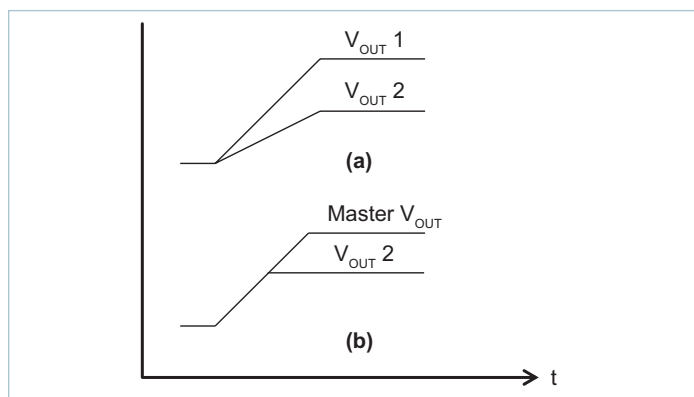

Figure 61 — PI33xx-x0 tracking methods
There is typically either proportional or direct tracking implemented within a design. For proportional tracking between several regulators at start up, simply connect all devices TRK pins together. This type of tracking will force all connected regulators to start up and reach regulation at the same time (see Figure 61(a)).
All connected regulators’ soft-start slopes will track with this method. Direct tracking timing is demonstrated in Figure 61(b). All tracking regulators should have their Enable (EN) pins connected together to work properly.